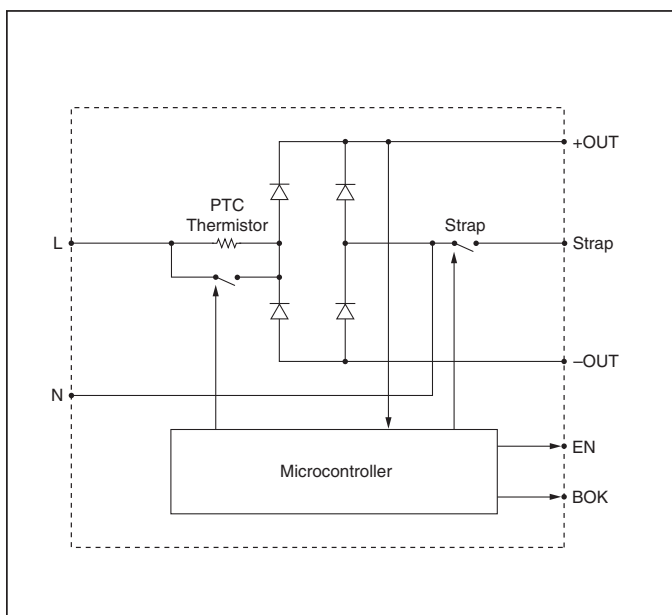

Figure 8 — Functional block diagram
**Initial Conditions.** The switch that bypasses the inrush limiting PTC (positive temperature coefficient) thermistor is open when power is applied, as is the switch that engages the strap for voltage doubling. (See Fig. 8). In addition, the downstream DC-DC modules are disabled via the Enable (EN) line, and Bus-OK (B OK) is high.